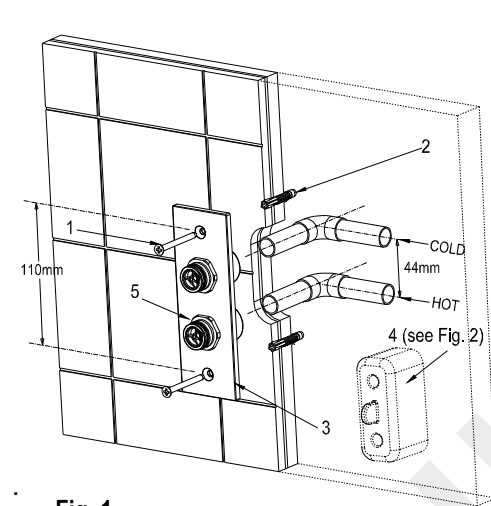

Fig. 1
**Valve Installation (see Fig.1,1.1, 2,2.1, 3 & 4):**